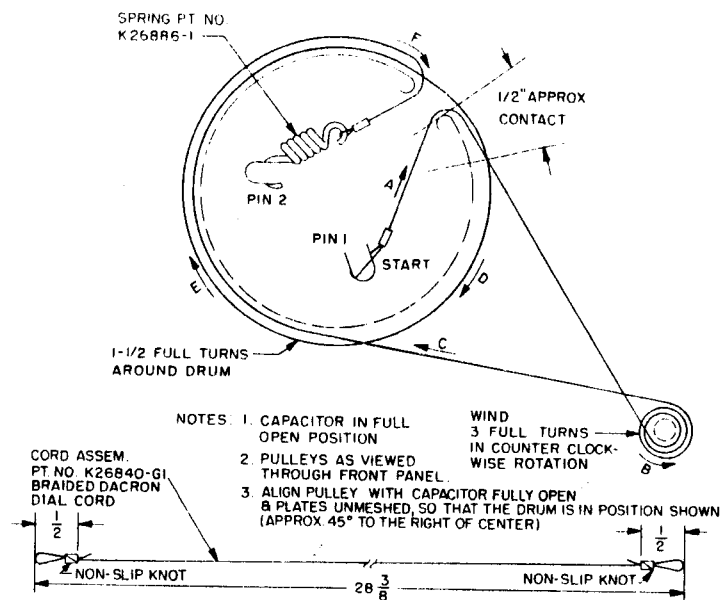

Figure 8. Restranging the VFO Drive Mechanism
3. Make up the dial drive cables as shown in figures 8 and 10.
4. Place the loop end of the VFO drive cable over pin 1 on the tuning drum. Following the lettered sequence shown in figure 8, string the VFO drive cable on the drum and anchor the spring over pin 2 of the tuning drum.